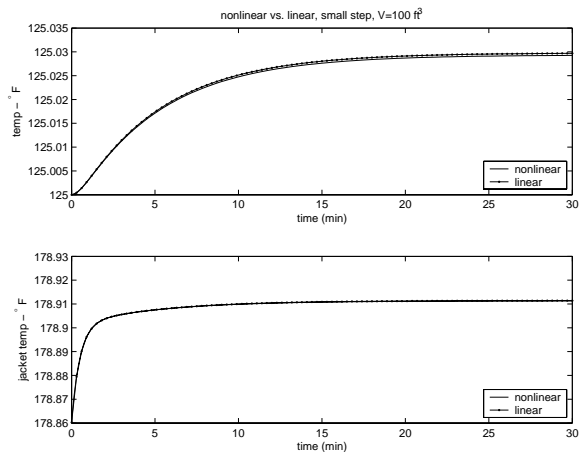

Figure 2-5: Plot for 2.8i
The resulting graph should be the same as figure 2-5, except that the time range from -1 to 0 will not appear.
- i. Figure 2-5 shows the response to a step of $0.1 \text{ ft}^3/\text{min}$. Comparing this to figure 4(a), we can see that both linear model responses are practically the same as the nonlinear model response. The change in temperatures is also minor, as the change in jacket flow rate is small (0.2% of the steady state value in both cases).